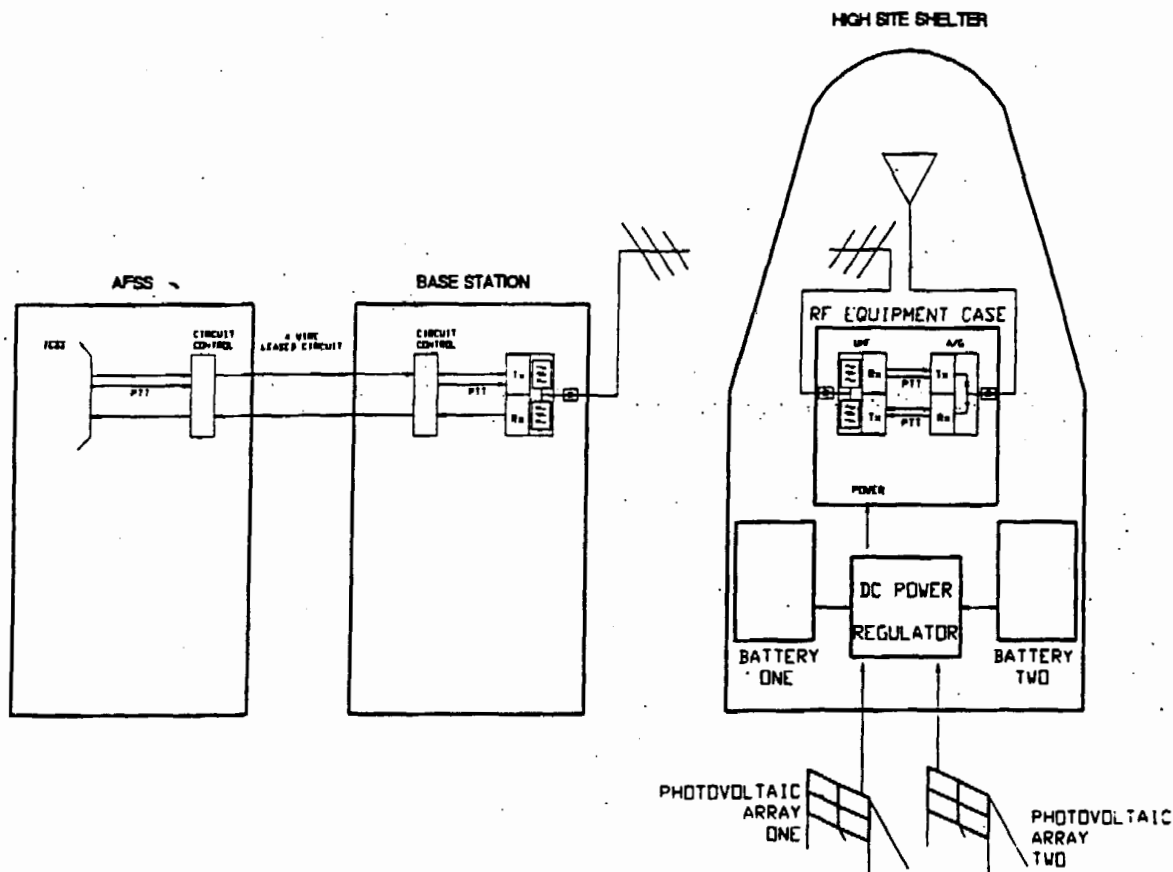

Figure 1-1. Mark III SSO block diagram.
Table 1-1 lists the site locations, unit designations, and nomenclature of all major components of the Mark III SSO. The unit relationships are shown in figure 1-1
1.2.1 Purpose. - The purpose of the Mark III SSO is to provide VHF air-ground communication between aircraft pilots and Flight Service Specialists at an Automated Flight Station. The purpose of the equipment at the sites is described below. Refer to figure 1-1 for the relationships among equipment components.
2.1 Simplified theory of operation. See figure 1-1 for block diagram for Mark III SSO.